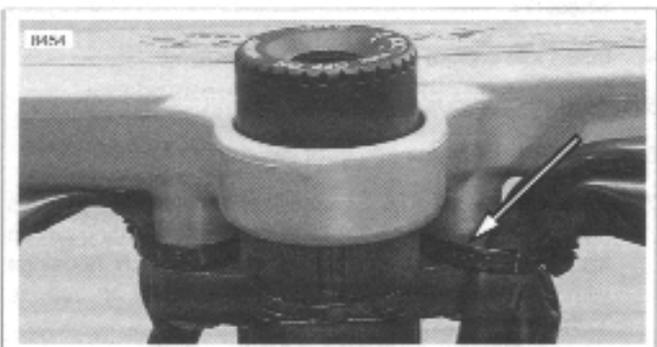

Figure 2-90. Cable Straps On Upper Fork Clamp
8. See Figure 2-90. Cut cable strap from left upper fork clamp.
5. Install clutch hand lever (4) in hand lever clamp (2) and tighten hand lever pinch fastener (3) to 39-48 **in-lbs** (4-5 Nm).
6. Position hand lever (4) to rider preference and tighten hand lever clamp pivot fastener (1) to 36-60 **in-lbs** (4-7 Nm).
7. Connect clutch cable ferrule (9) to hand lever clamp (2).
8. See Figure 2-90. Install cable strap holding safety interlock switch and left switch housing on left upper fork. Do not over tighten cable strap.